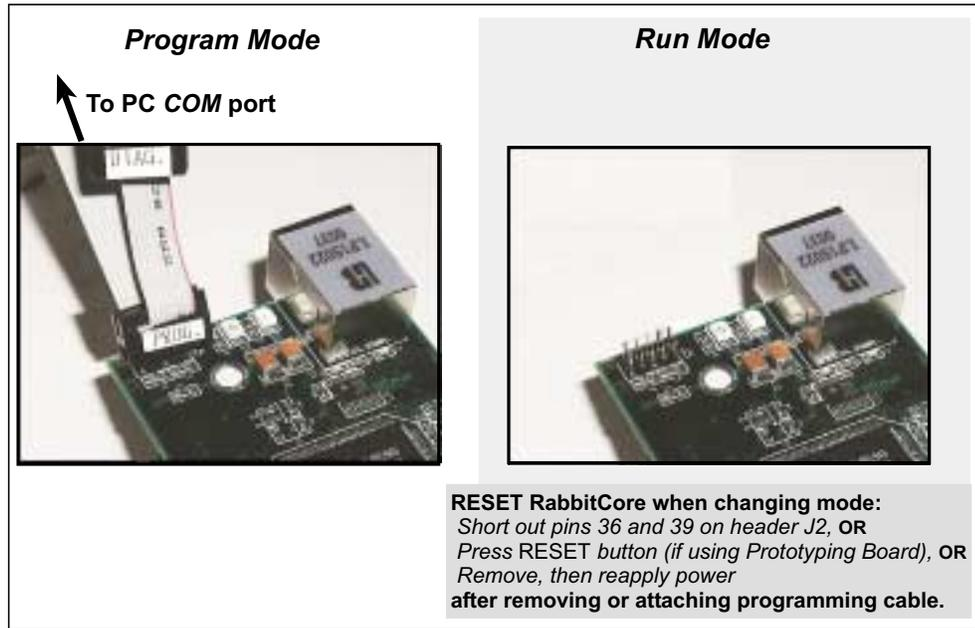
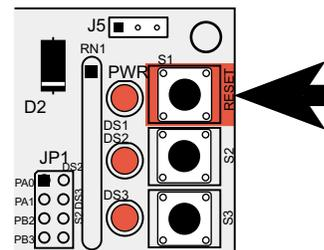

Figure 6. Switching Between Program Mode and Run Mode
Figure 7. Location of Prototyping Board Reset Button
2. Reset the RCM2100. You may do this as explained in Figure 6. Figure 7 shows the location of the RESET button on the Prototyping Board.